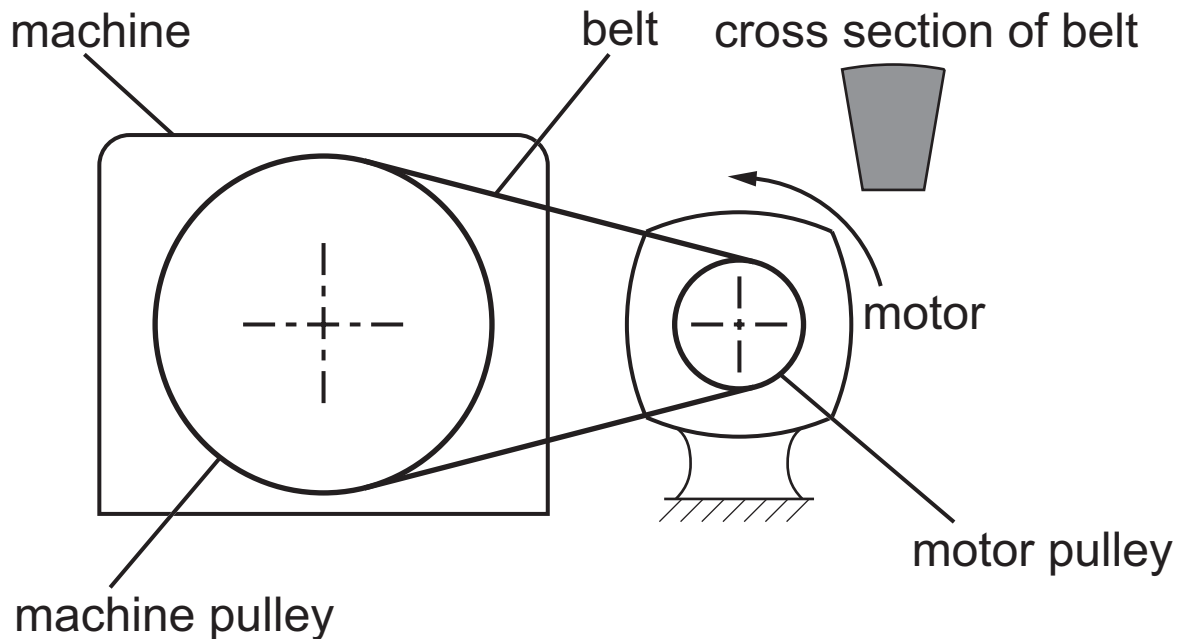

Fig. 2
- 3 **Fig. 2** shows a belt and pulley system which is used to transmit power from a motor to a machine pulley.
- (iv) Mark on **Fig. 2** the direction of motion of the machine pulley. [1 mark]